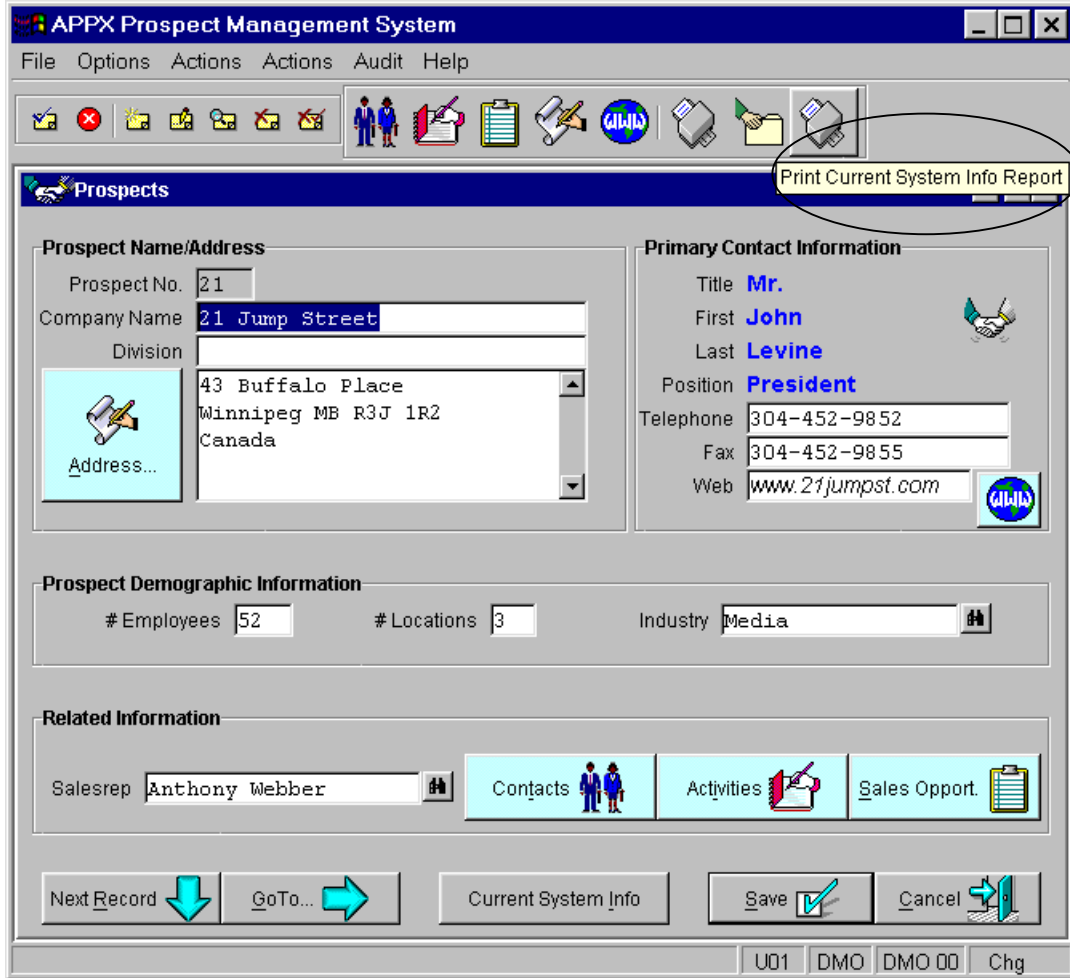

Figure E4.20 – New option on Toolbar
- Use **Option 99 (^99)** to run the Prospect File Maintenance process. Select a record and the new optional process is now an available option on the Toolbar (*Figure E4.20*). To invoke the process, click on the Printer icon that has the appropriate tooltip.